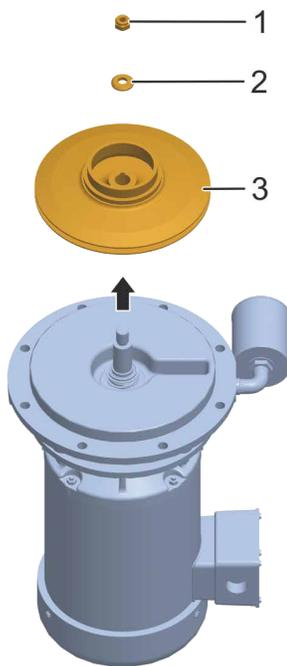

Fig. 74 Removing the impeller
32. Remove the nut for fastening the impeller (Fig. 74/1) and the washer (Fig. 74/2) and place them to one side for later assembly.
33. Remove the impeller (Fig. 74/3).